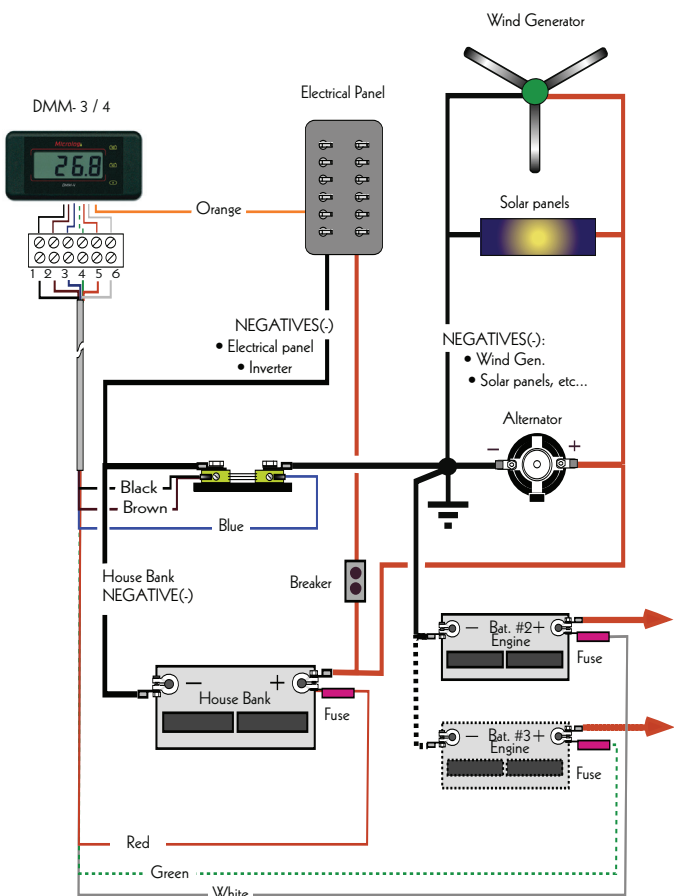

Figure 4: Shunt Installation to monitor the charge current
- C- You can also install the shunt to monitor the charge current only, as in Figure 4.
C- Figure 4 show the instrument with shunt for chargers current monitoring only :